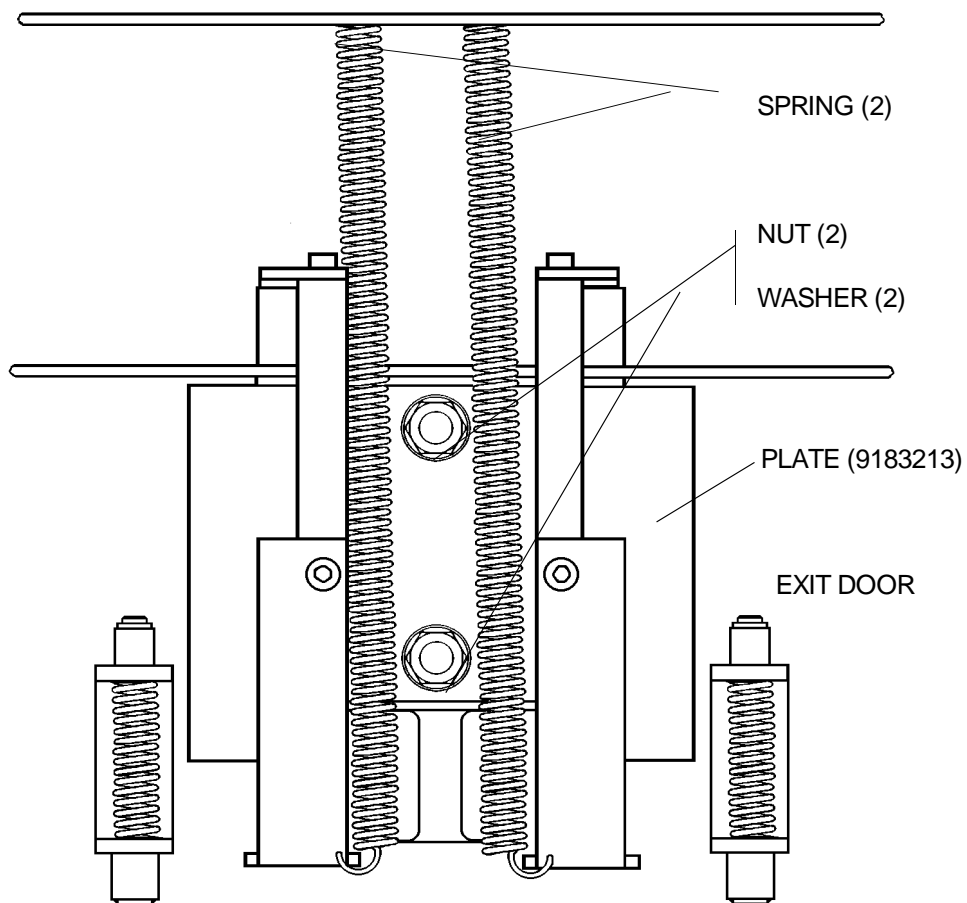

figure 1
- 6.** Remove and discard the SPRINGS. See figure 1.
- 7.** Remove the two NUTS and WASHERS. See figure 1.
- 11.** Install the new SPRINGS 919 4601 to the EXIT DOOR. See figure 1.